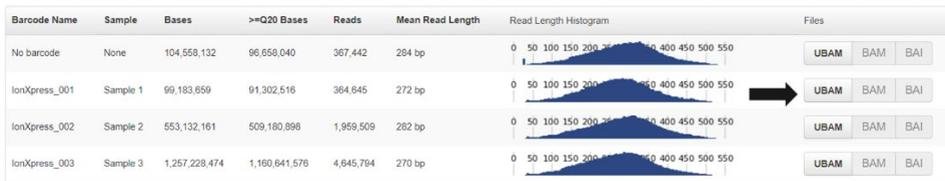

Figure 24. Unaligned reads in BAM format.
2. Click the **UBAM** button in the row corresponding to the individually indexed samples and column labeled **Files** in the table (Figure 24). These are the unaligned reads in BAM format, with the index separated for each sample. Save the .UBAM file to a local disk. The file is usually several hundred megabytes to several gigabytes, depending on the size of the sequencing chip being used.